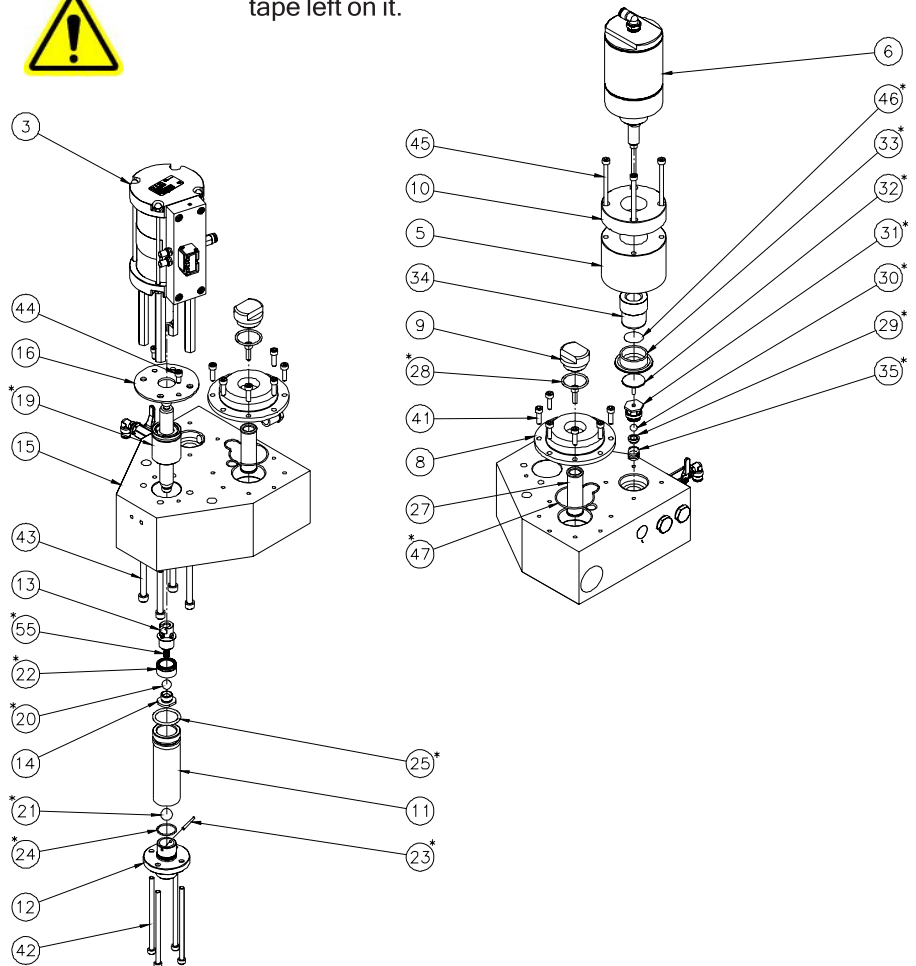

Figure 4-1. PFRM5 Assembly (561xx234)
2. Disassemble the pump (refer to Figure 4-1), and discard all components marked with an asterisk (\*). These components are supplied with rebuild kit 561xx259.